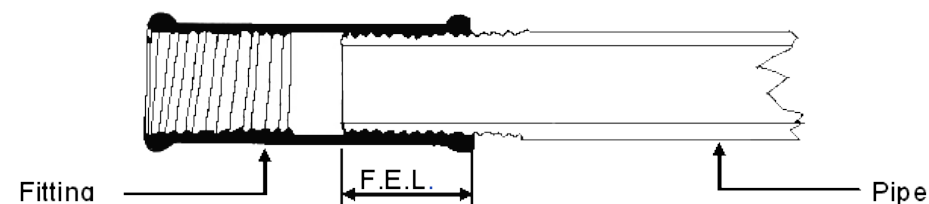

Figure F1 – Pipe thread
*Note: Table F1 and Figure F1, give details of the overall lengths of thread to be made and the length that will be inserted into fittings.*